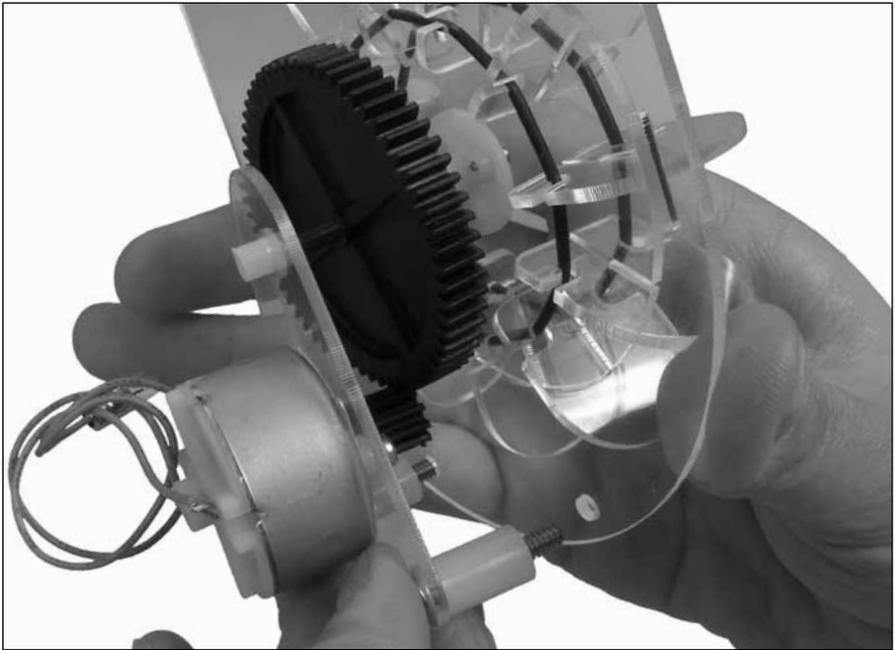

Figure 11
14. Align the two screw ends to the bottom of Part A with the turbine wheel – the axle will also need to go through the bushing at the top of the motor assembly (Figure 11).